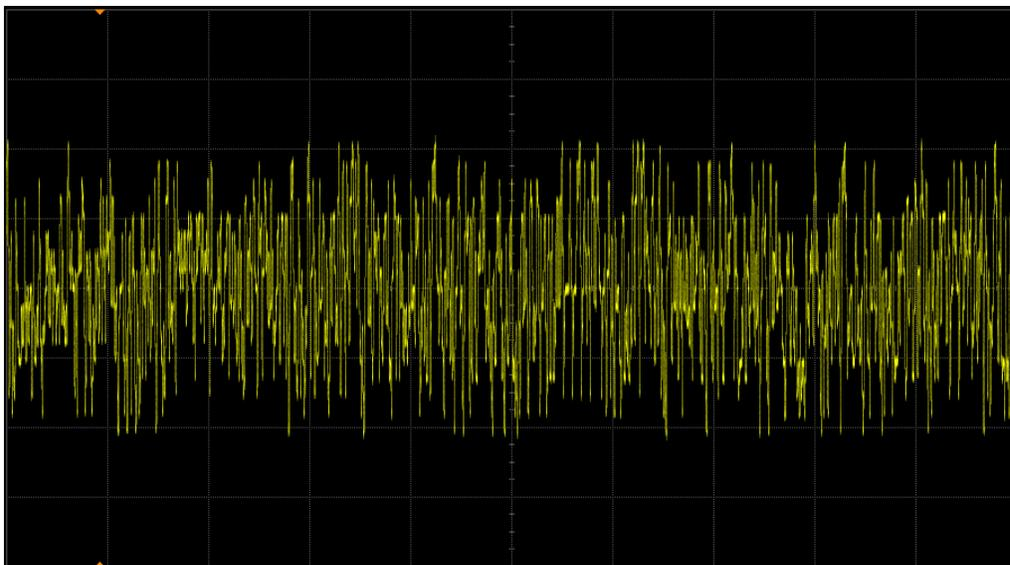

Figure 22 Example of Transmitter Test Mode 4 Waveform (1 Cycle)
- 1 Configure the DUT to output the Test Mode 4 signal. An example of this waveform is shown in Figure 22.